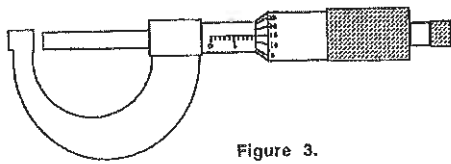
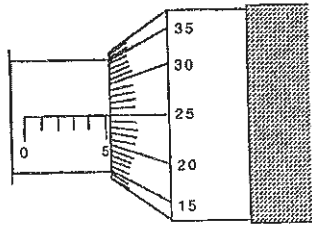
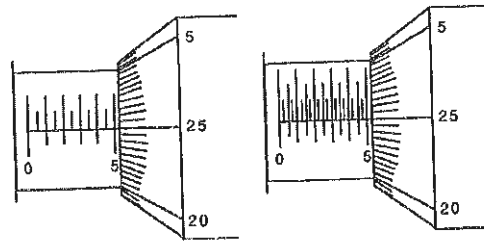

Figure 3.
Figure 4.
Figure 5.
**Micrometer:** Figure 3 shows the other type of length measuring device commonly used in the laboratory, the micrometer caliper. This device utilizes a screw with pitch such that one turn of the barrel moves the arm a pre-determined distance. On the frame of the instrument is a linear scale and the barrel is divided into some number of divisions. The metric micrometer has the barrel divided into 50 parts and the pitch of the screw is such that it requires two turns of the barrel to move the arm 1.0 mm. Thus, this device is capable of being read to 0.01 mm. On this scale, the barrel must be turned through two revolutions for the arm to move one scale division so the user must pay attention to whether the marker has moved more than half a main scale division. Figure 4 shows a metric micrometer reading which could be either 5.25 or 5.75 mm. From the spacing it is 5.25 mm, but by reading only the number it could be either one. The English micrometer is like the metric micrometer, but reads in units of 0.001". The scale on the frame is in tenths of an inch and the barrel is divided into 25 parts. The pitch is so as to require 4 turns of the barrel to move the arm 0.1 inch. This divides 0.1 inch into 100 parts, making the micrometer readable to  $0.1" \times 0.01 = 0.001"$ . Quite often the 0.1" divisions will be subdivided into 2 or 4 parts, as illustrated in Figure 5. The micrometer is often equipped with a Vernier scale which allows the reading to be carried one order further. It is common to use a micrometer caliper with Vernier to read 0.0001" or 0.002 mm.